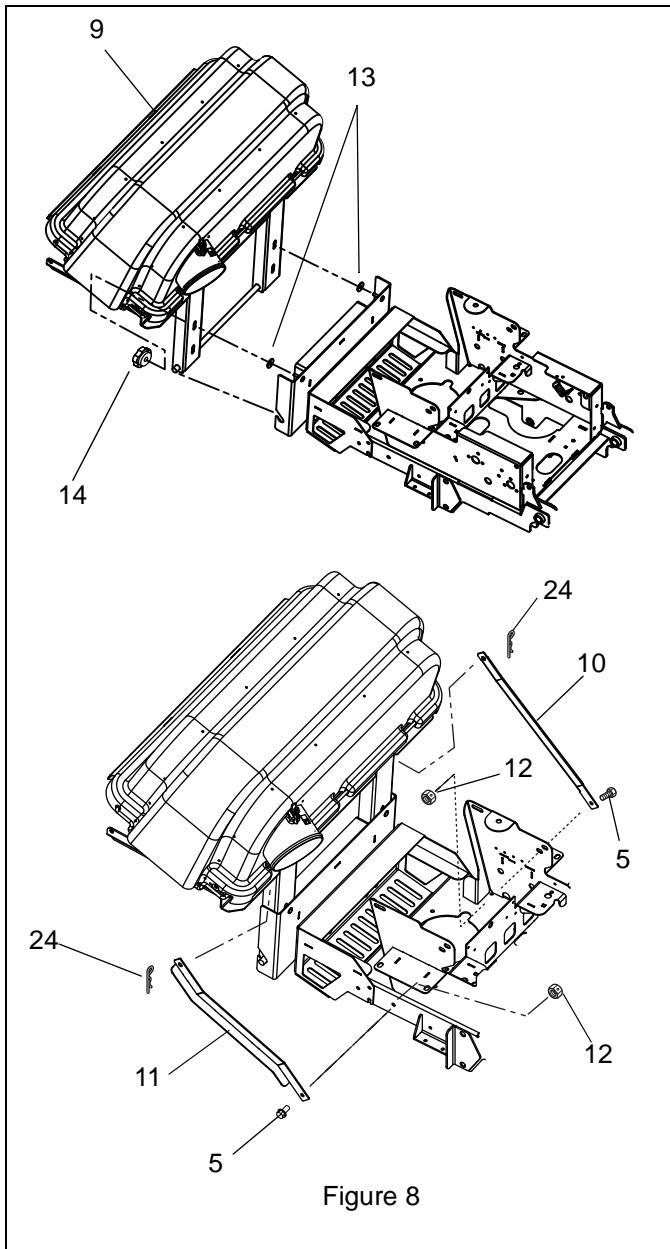

Figure 8
9. Install the bagger cover assembly (item 9) on the bagger mount weldment (item 4) with two 9/16 x 1-3/8 flat steel washers (item 13) and two 5/16-18 clamping knobs (item 14). Keep them loose until the bagger supports are installed. See Figure 8.
10. Install the right bagger support weldment (item 11) and the left bagger support weldment (item 10) on the right and left side cover assembly. Secure the supports to the cover assembly with a hair pin, #25 (item 24) and to the unit frame with a 3/8-16 x 1 hex bolt (item 5) and 3/8-16 center lock nut (item 12). Keep hardware loose until both straps are installed, and then tighten all hardware.
8. Remove catcher assembly (see figure 8 on page 12).